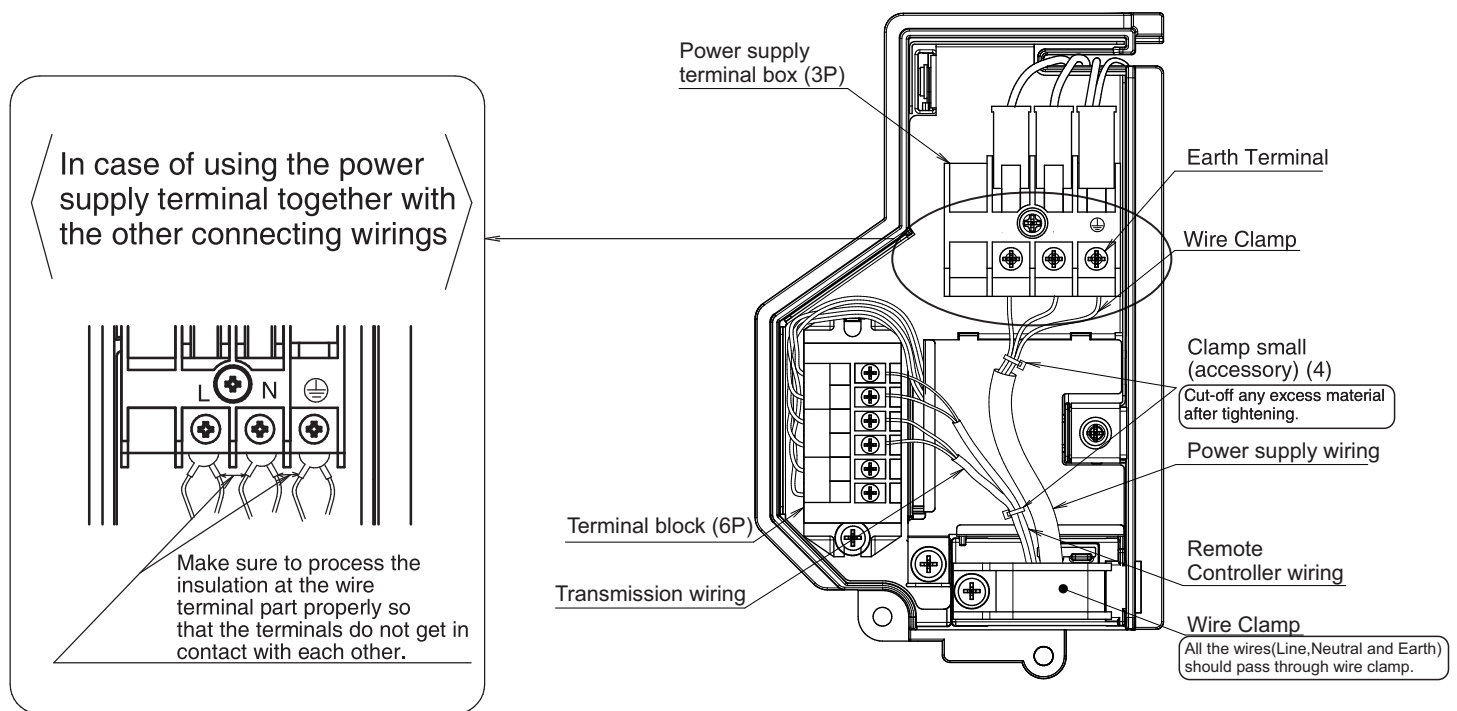

Fig. 23
(Refer to Fig. 23)
When doing this, tie the remote controller wiring and the transmission wiring using the included clamp (small) (4) and then firmly secure using the included clamp (small) (4) according to the figure. **(Refer to Fig. 23)**